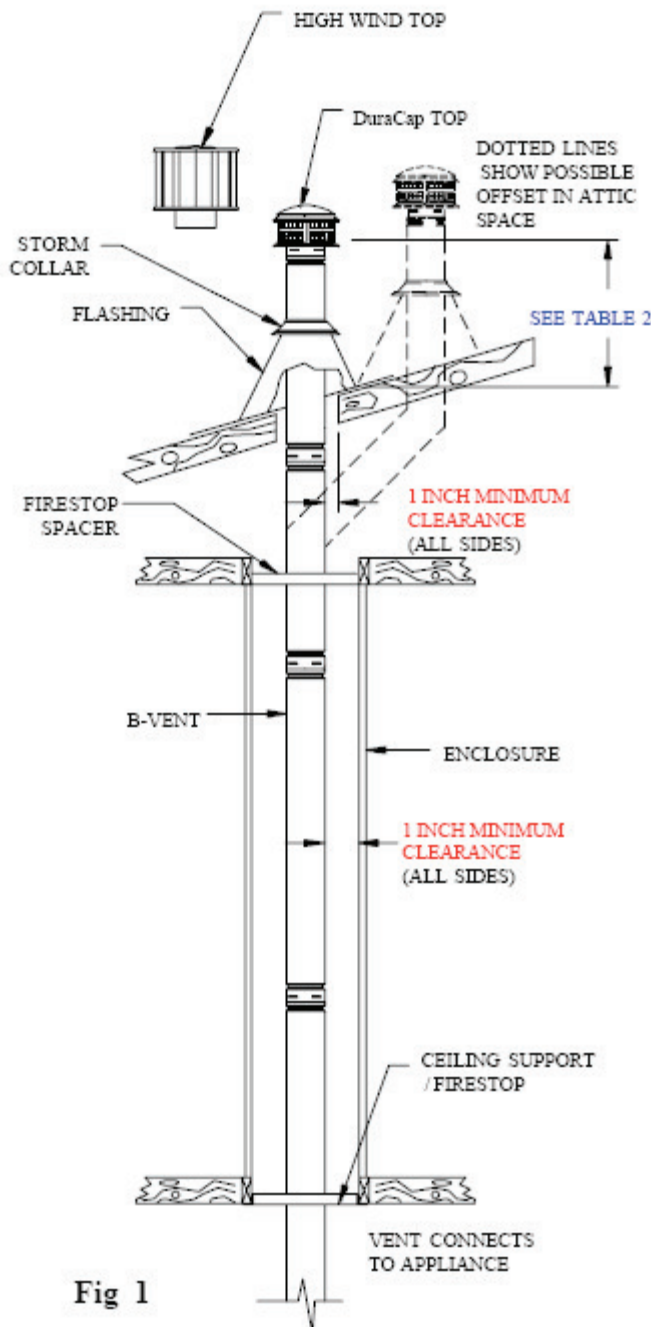
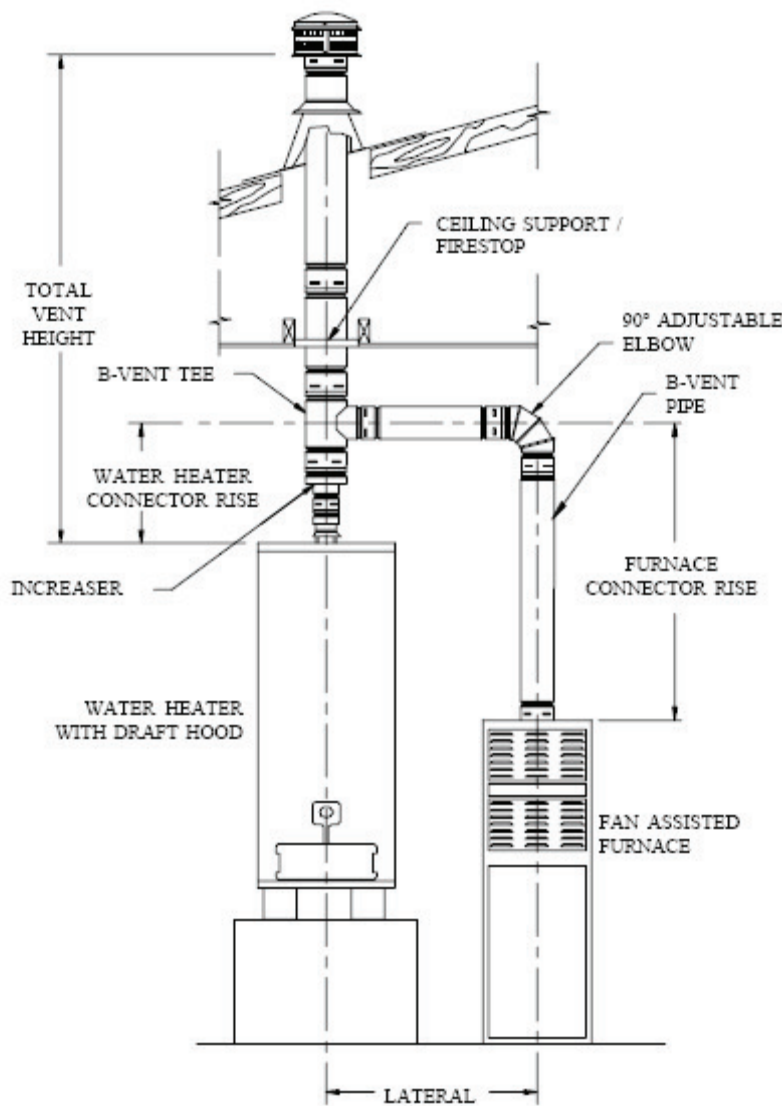
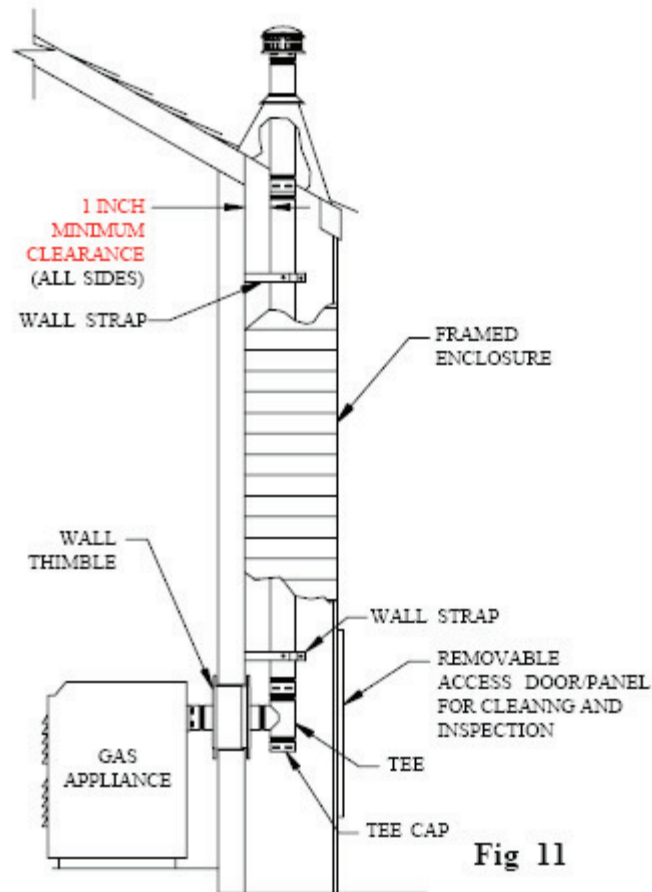

Fig 1
Fig 2
Fig 11
3. **Figures 1, 2, & 3** show examples of some typical residential installations.
**8. Tees and Wyes.** **Tees** and **Wyes** are used to combine connectors from 2 or more appliances into a common vent as shown in Figures 2 and 3. A **Tee** should be used in a through-the-wall application, (Figure 11), as they have a removable **Tee Cap** (available as a separate item) attached to the bottom. This **Tee Cap** may be removed in order to inspect the system, or to clean out debris or collected condensate from the common vent. **Wall Straps** should be used to support the vertical pipe as needed to provide a secure installation. **Wall Straps** every four feet are recommended.
burns. Figure 1 (page 2) shows a system which passes through an occupied second floor. Simpson Dura-Vent does not recommend installation of B-Vent Pipe on the outside wall of a building, particularly in cold climates. If it is necessary to do this, enclose the outside portion of the system in a chase, as shown in Figure 11. It would be wise to consult the Local Authority prior to construction. Note that the enclosure requires an access door for inspection and maintenance purposes.